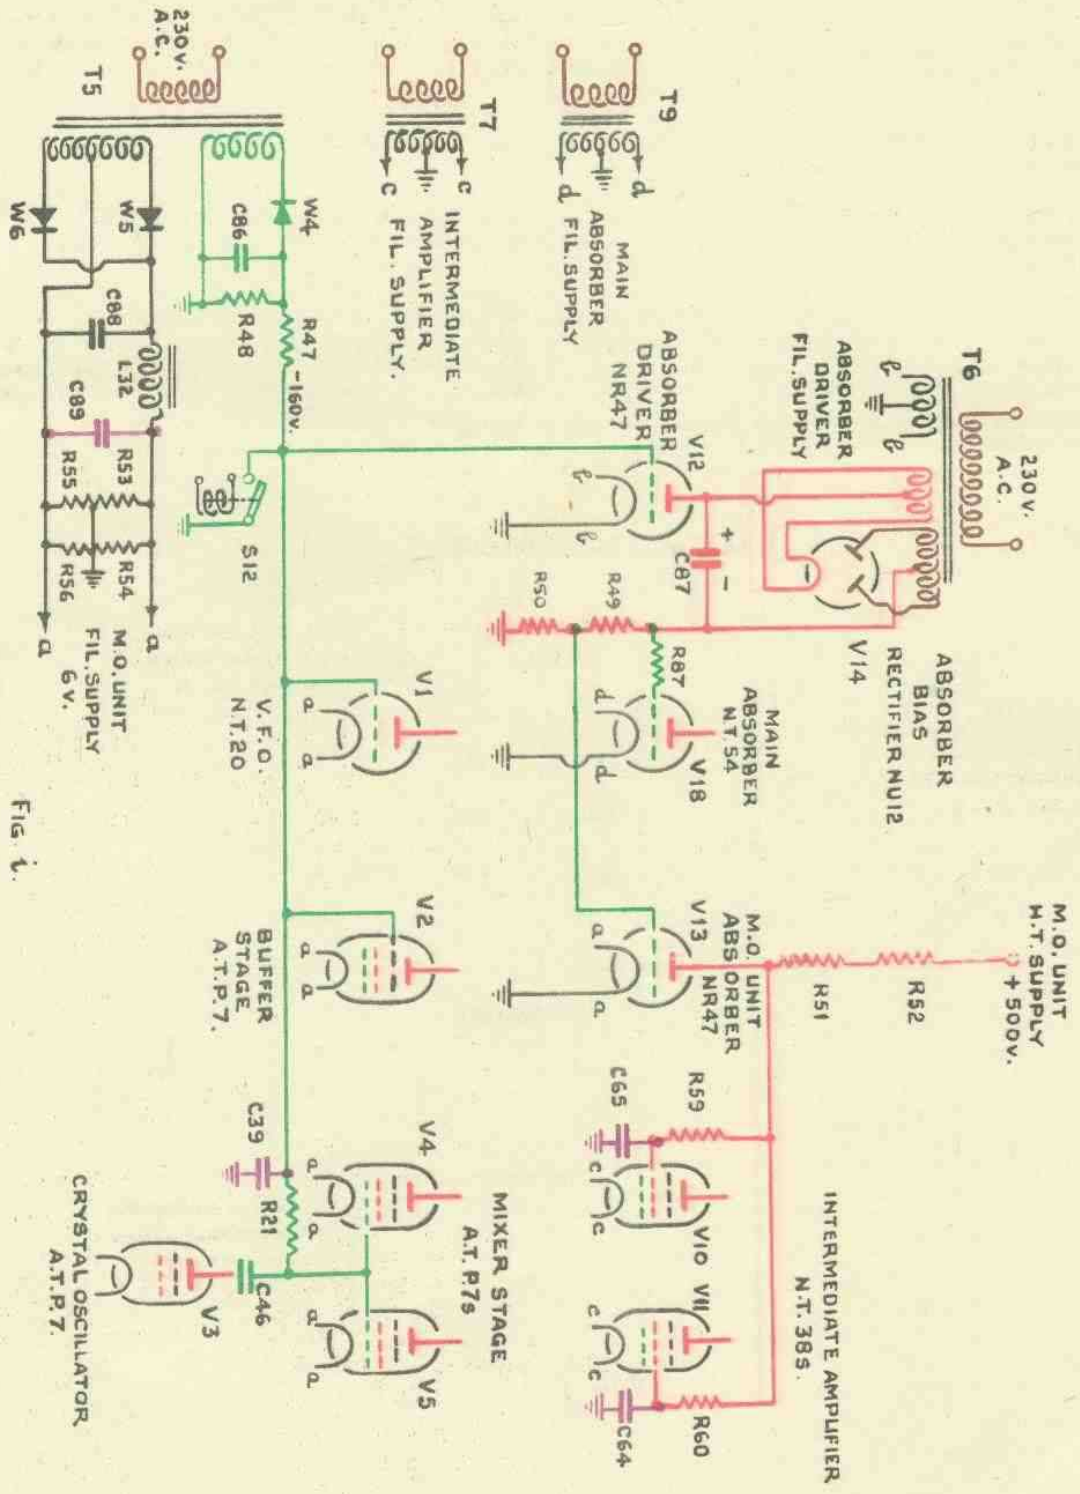

Fig. 1.
(1) Keying and Absorber Circuit. (Fig. 1).
The filaments of valves V12, V13 and V18 are shown in the simplified diagram Fig. 1 as being directly earthed. This has been done in order that the keying operation may be followed more easily. The filaments are earthed by the centre tap on the filament winding as shown on transformers (T6, T9) and the earthed centre point of the filament rectifier.